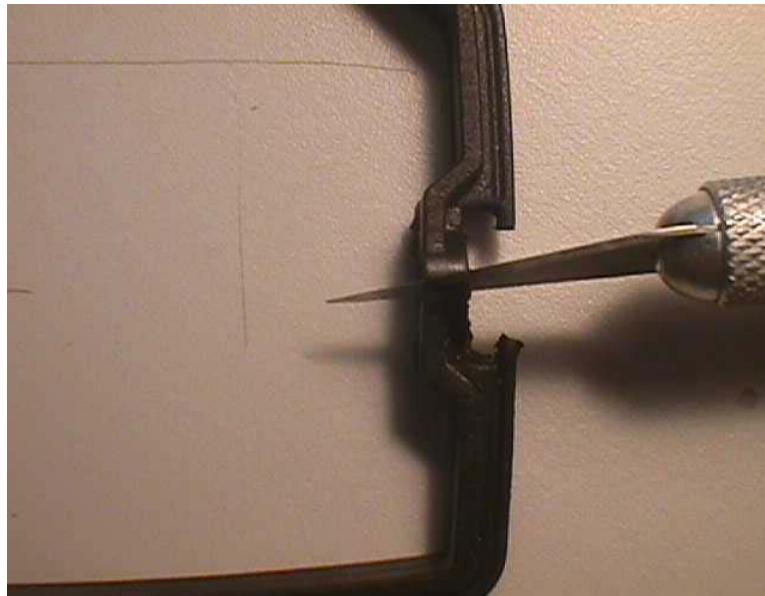

Figure 7-5 For a new gasket, cable passages need to be carefully cut
4. Prepare bottom case by inserting gasket into retaining groove. **NOTE:** If gasket is to be reused, note that the cable passages have an access cut in them. For a new gasket, these cable passages need to be carefully cut in one place to allow cable entry. See Figure 7-5.